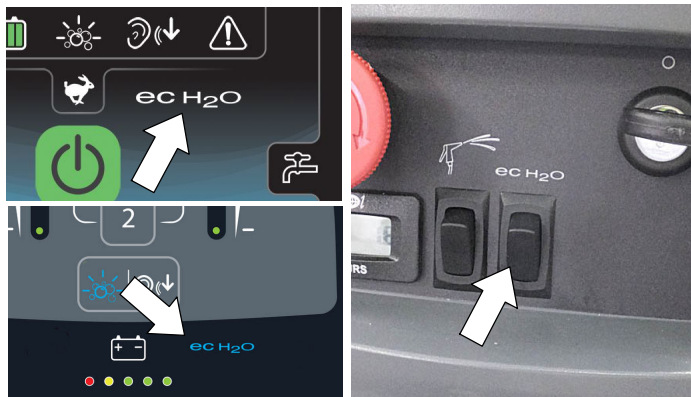

Fig. 48
4. The ec- H2O system will automatically turn on at key start up. The ec-H2O icon will appear on the control panel as shown below. To turn off the ec- H2O system, press the ec- H2O button (Figure 48).